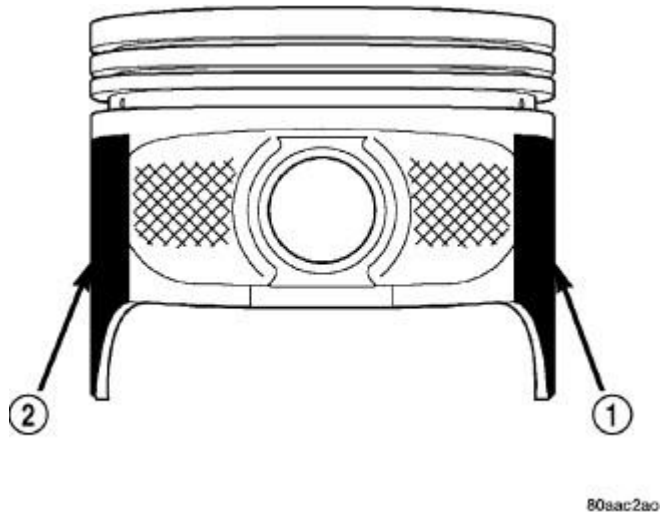

Fig. 107: Moly Coated Piston
- The coated pistons (1, 2) will be serviced with the piston pin and connecting rod pre-assembled. Refer to **Fig. 107**.